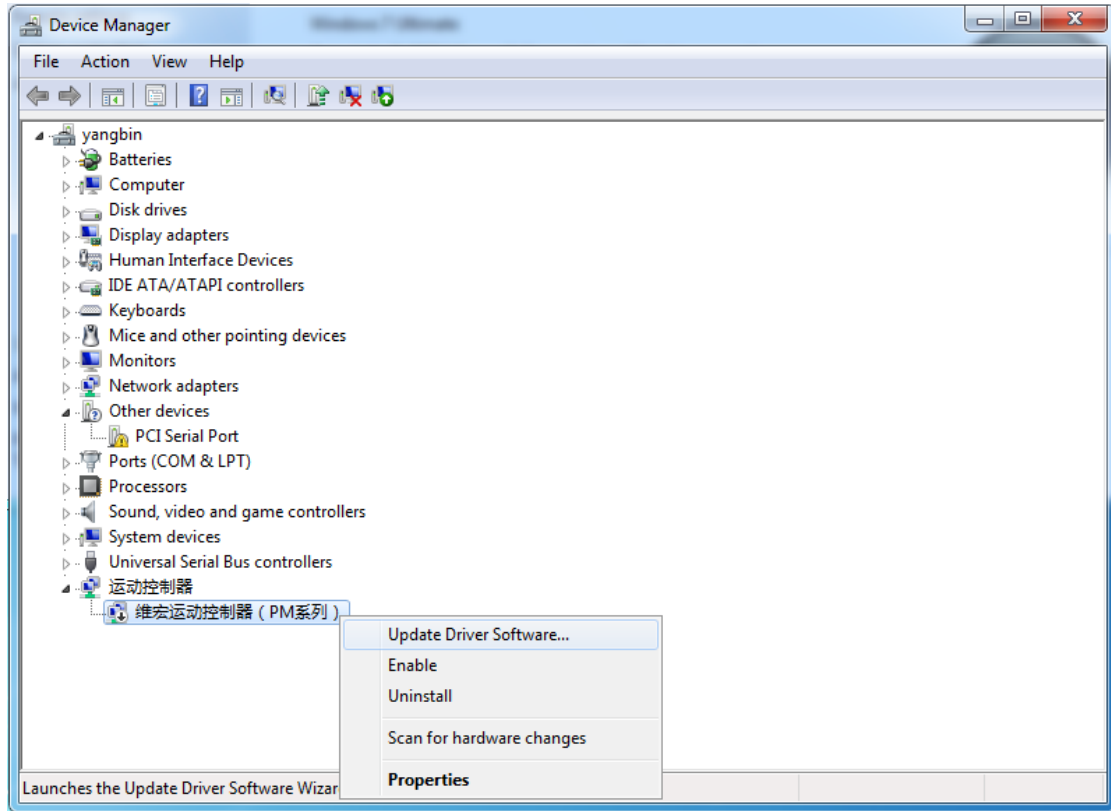

Fig. 1-2 Update driver software
- 1) Right click [Computer], select [Properties]→[Device Manager]. In [Device Manager] window, find [运动控制器] item and click the ▸ icon, then right click the item under [维宏运动控制器(PM系列)] item. After that, select [Update Driver Software...] to start updating the hardware driver as shown in Fig. 1-2.